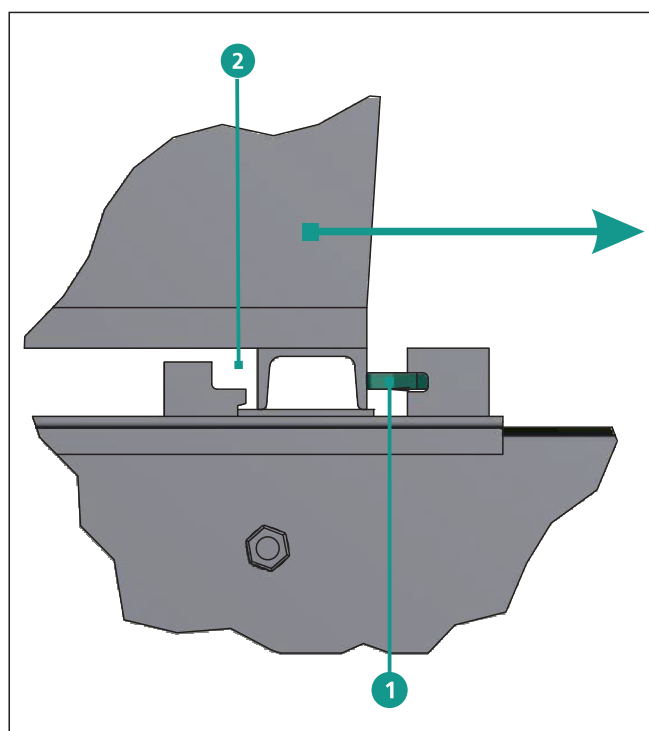

Figure 5.2
Release the wedges ① on the fixings and by driving them in on the other side of the section ② push the back wall out of the overturning restraint (see Figure 5.2).